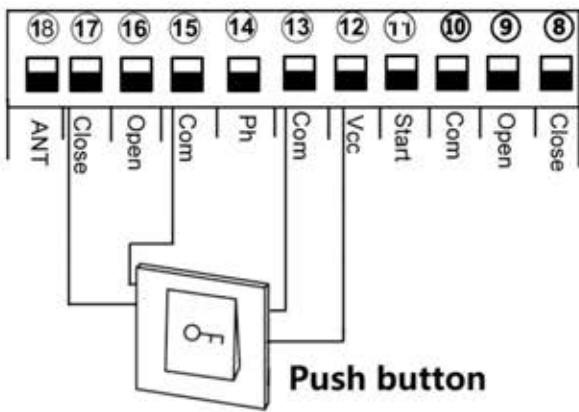

Fig 15
6.8. Connect to close device. Fig 15